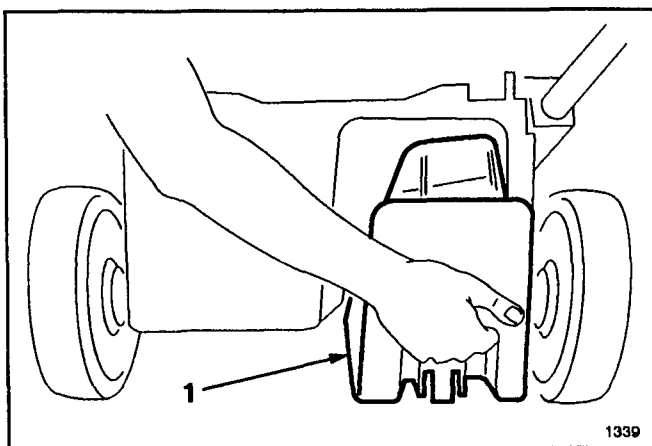

Figure 14
2. Open discharge door and insert plug into discharge tunnel opening (Fig. 14).